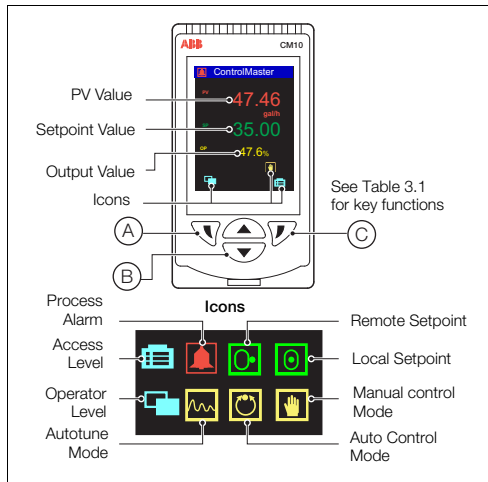

Fig. 3.1 ControlMaster CM10 Display and Icons
*When in Advanced Level (configuration) mode, press and hold the  key to return to the standard Operator page – see Fig. 3.1, page 6